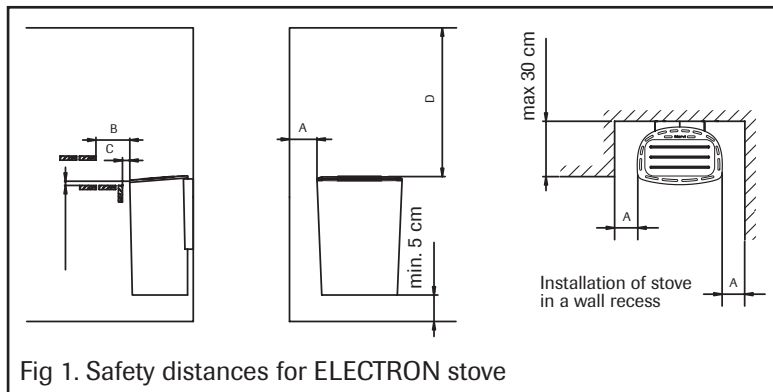

Fig 1. Safety distances for ELECTRON stove
\*\*) See Fig. 1
- The stove can also be installed in a wall recess, cf. Fig. 1.